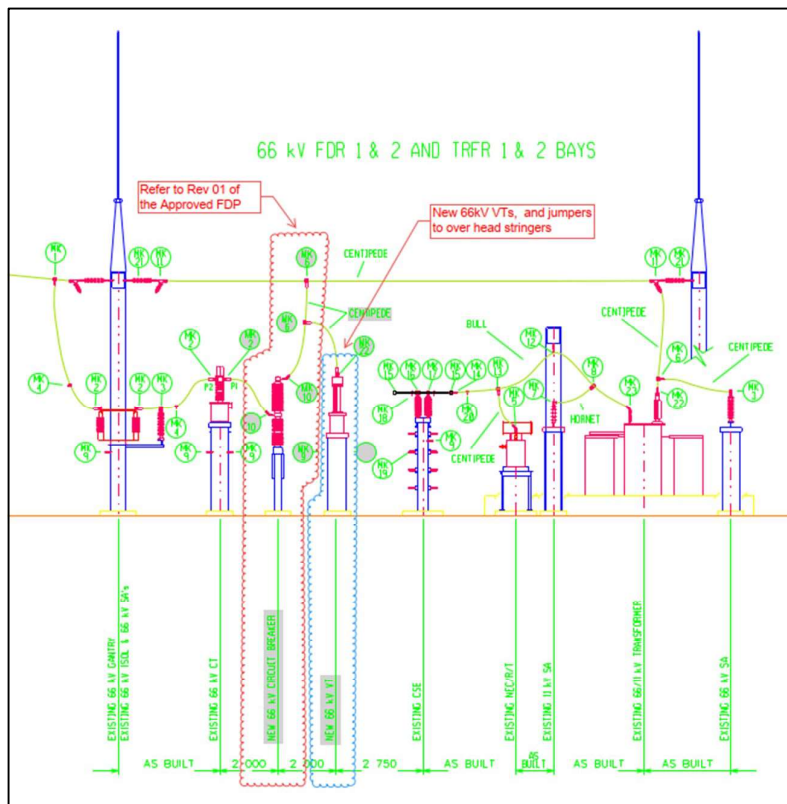

Figure 8 - Proposed solution and position of new VTs
Figure 8 depicts in further detail the positions of the new 66 kV voltage transformers. It should be noted that label changes will also have to be done on the respective existing and new HV equipment to ensure the current naming convention of 'Blouwater' is changed to Blouwater/Ystervark TEE.
- New overhead conductor jumpers and clamps to be installed between the existing 66 kV overhead gantry stringers and the new VTs. The jumper to the VT shall tie into the jumper rising from the new circuit breaker, as per Figure 8.